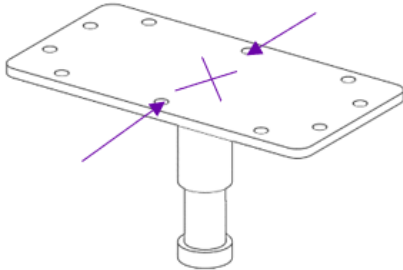

Figure 3: Ceiling Plate Template
1. Use a stud finder to locate a ceiling joist in the area that you have selected to place your **ORBIT**. Hold the **Ceiling Plate** (Part #4) on that area and mark two opposing holes that match the plate holes in line with the ceiling joist marking. We recommend two that are in the middle of the long sides of the plate as shown in Figure 3. Mark an "X" where the pin should be located. From this center point (location of pin coming out of the plate), measure the space requirement distances from your chosen Arm Configuration (Normal = 50 in/127cm, Long Arm = 80in/203cm, and Super Arm = 53 in/135cm,)